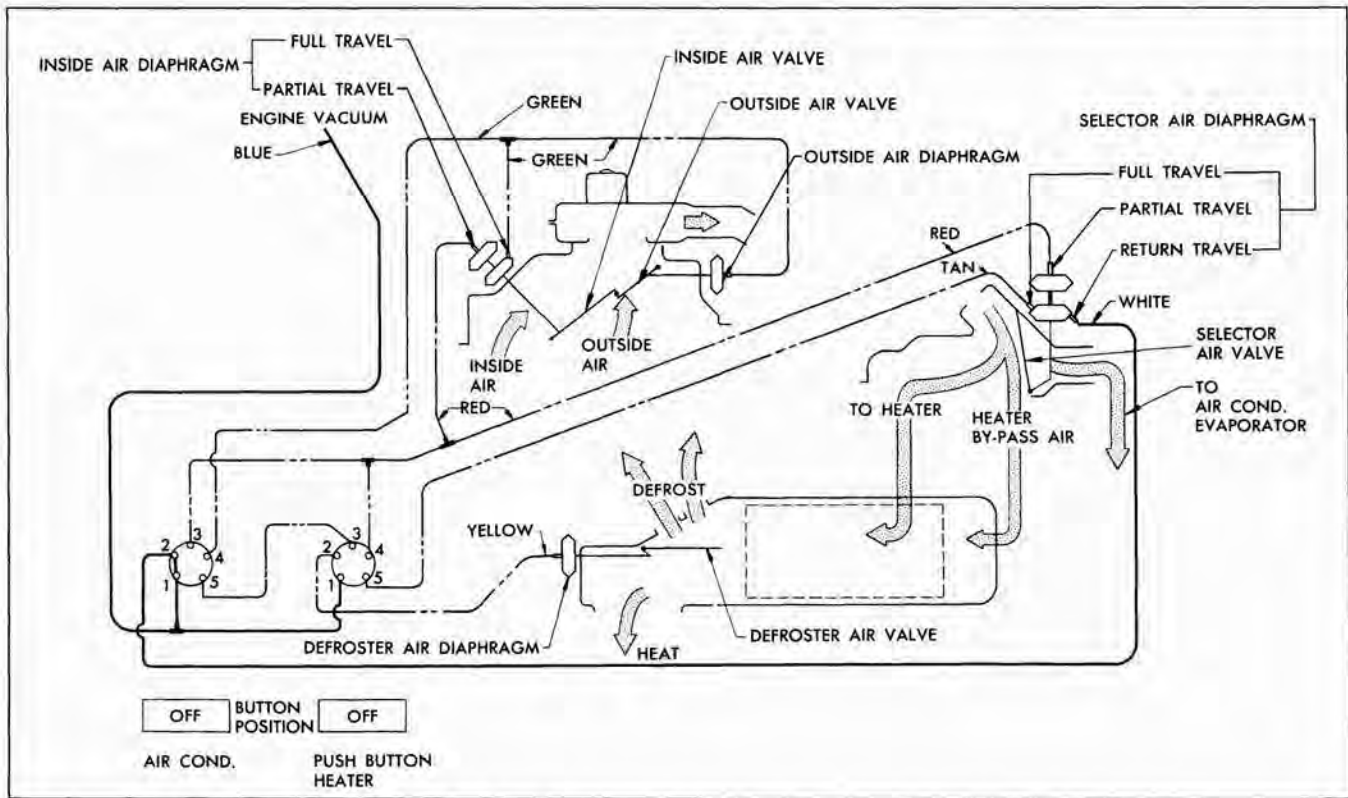

Fig. 5-20 Push Buttons: AC-OFF, Heater-OFF, No Air Flow. (Vacuum in Dark Black Lines)
**PUSH BUTTON: AC—OFF, CIRC-L-AIRE HEATER—OFF (See Fig. 5-20)**